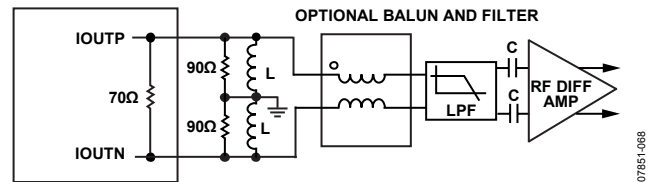
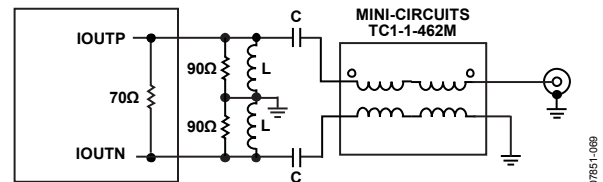
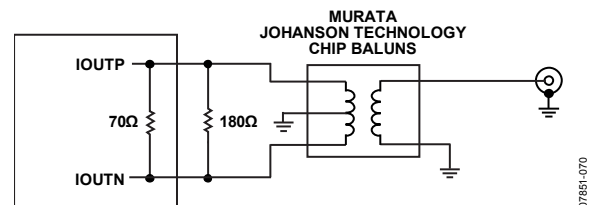

Figure 67. Interfacing the DAC Output to the Self-Biased Differential Gain Stage
Figure 68. Recommended Mix Mode Configuration Offering Extended RF Bandwidth Using a TC1-1-43A+ Balun
Figure 69. Lowest Cost and Size Configuration for Narrow RF Band Operation
Figure 67 shows an interface that can be considered when interfacing the DAC output to a self-biased differential gain block. The inductors shown serve as RF chokes (L) that provide the dc bias path to analog ground. The value of the inductor, along with the dc blocking capacitors (C), determines the lower cutoff frequency of the composite pass-band response. An RF balun should also be considered before the RF differential gain stage and any filtering to ensure symmetrical common-mode impedance seen by the DAC output while suppressing any common-mode noise, harmonics, and clock spurs prior to amplification.
For applications operating the AD9739 in mix mode with output frequencies extending beyond 2.2 GHz, the circuits shown in Figure 68 should be considered. The circuit in Figure 68 uses a wideband balun with a configuration similar to the one shown in Figure 67 to provide a dc bias path for the DAC outputs. The circuit in Figure 69 takes advantage of ceramic chip baluns to provide a dc bias path for the DAC outputs while providing excellent amplitude/phase balance over a narrower RF band. These low cost, low insertion loss baluns are available for different popular RF bands and provide excellent amplitude/phase balance over their specified frequency range.